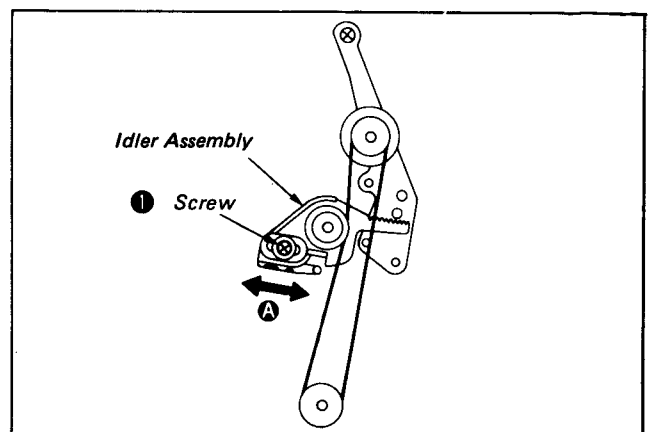

Fig. 8-59.
- i) Loosen the screw ❶, slide the idler assembly as shown by the arrow A, and fix it by tightening the screw ❶. (See Fig. 8-59.)
- 11) Eliminate short-circuit between Pin ③ of CN302 and GND on SS-64 board.
- 12) Remount the driving gear (B) assembly and the tension spring of the pinch press arm assembly.